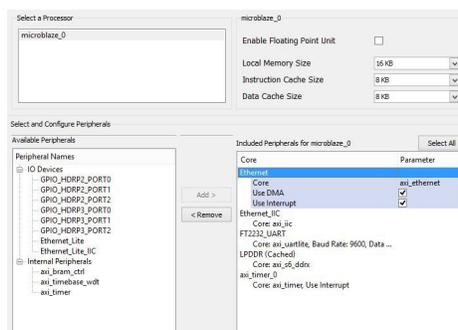

Figure 2
Step 3: Select the peripheral as shown in the Figure 2. Also enable the interrupt of Ethernet_IIC and axi_timer. Once done press finish.